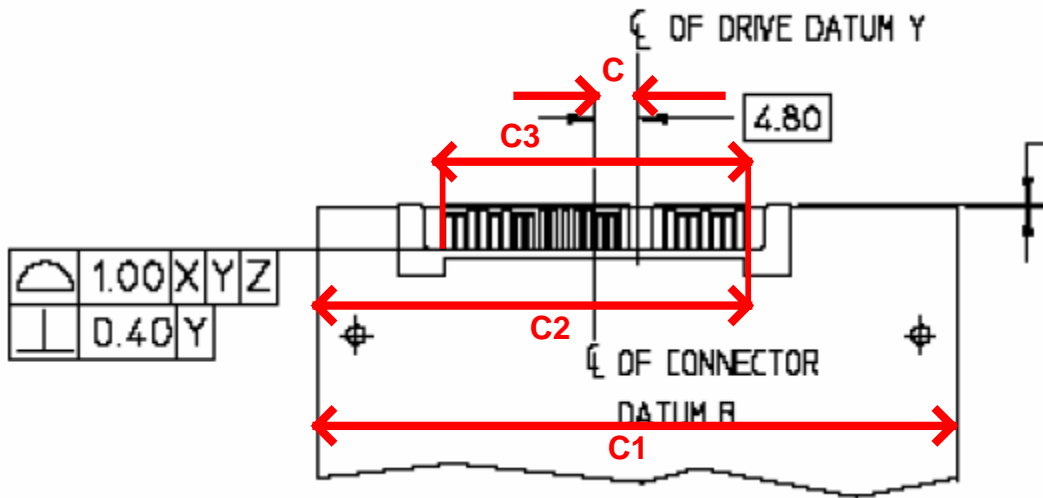

Figure 19
1. Using the outside measurement jaw of the calipers measure the value of  $C1$  as shown in Figure 19. Record the value of  $C1$ .
2. Using the outside measurement jaw of the calipers measure the value of  $C2$  as shown in Figure 19. Record the value of  $C2$ .
3. Using the outside measurement jaw of the calipers measure the value of  $C3$ , the width of the device plug connector as shown in Figure 19. Record the value of  $C3$ .